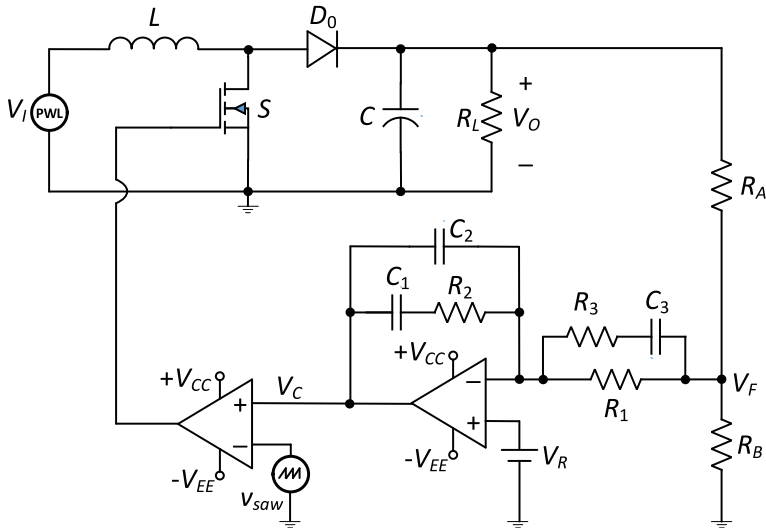

Figure 41.3 Circuit of the voltage-mode controlled boost dc–dc converter used to simulate step change in input voltage.
- Construct the circuit shown in Figure 41.3 on the circuit simulator.